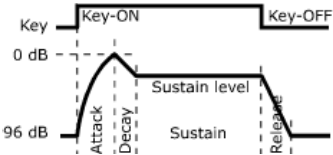

Figure III-2 Envelope waveform
The envelope generator (EG) varies tone and sound level with time under the control of Attack Rate, Decay Rate, Release Rate, Sustain Level and Total Level. Its dynamic range is 48 dB (resolution: 0.325 dB). EG uses a logarithmic scale and is represented with an attenuation level. The general waveform is shown in Figure III-2. Distinctively the waveform rises exponentially during attack time and varies linearly everywhere else. Attack stops and decay begins at 0 dB. Decay changes to sustain as soon as the sustain level is reached. Sustain will change to release when the key is released. The envelope waveform varies when parameters representing the effects of the total level, level key scale, and amplitude modulation, etc, are applied to EG.